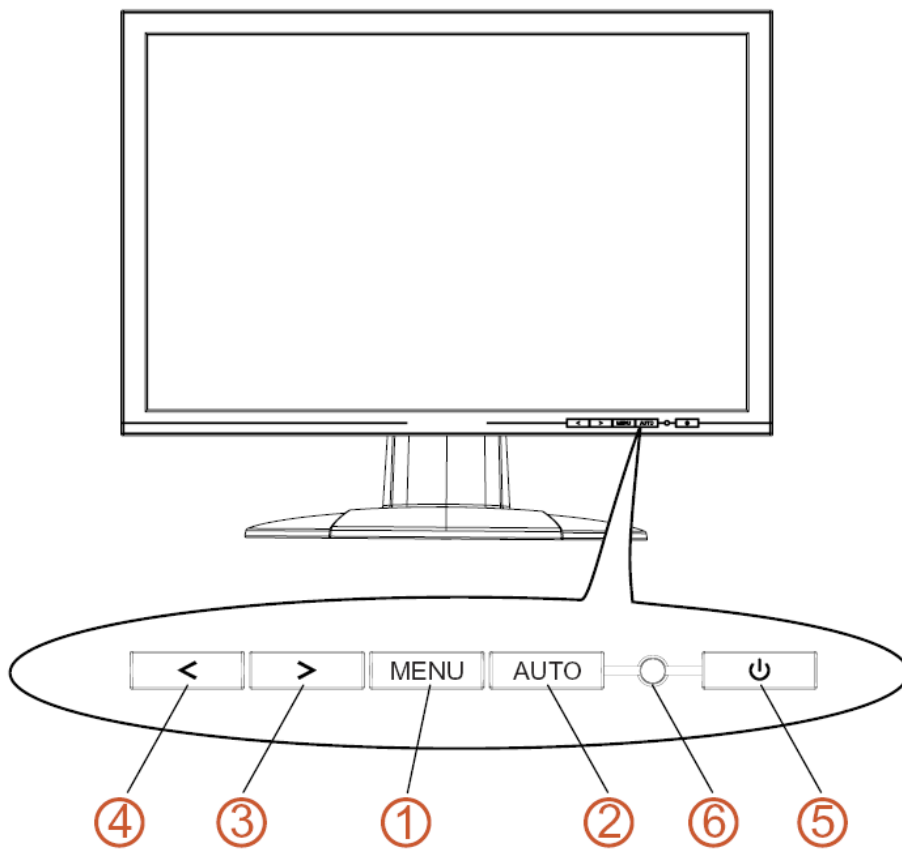

Figure.4. External Control Button
Press the power button to turn the monitor on or off. The other control buttons are located at front panel of the monitor (See Figure 4). By changing these settings, the picture can be adjusted to your personal preferences.
<p>The diagram shows the 'BRIGHTNESS CONTRAST' OSD menu. At the top, it says 'BRIGHTNESS CONTRAST'. Below that is a navigation bar with icons for brightness, contrast, RGB, image control, menu, and exit. The main area contains two menu items: 'BRIGHTNESS' and 'CONTRAST', each with a right-pointing arrow. At the bottom, it says '&lt; &gt; ADJUST MENU: ENTER AUTO: EXIT'.</p>	<p>Brightness/Contrast:</p> <p>Brightness: Adjusts brightness by using the buttons &lt; or &gt; (② and ⑤ in fig. 4).</p> <p>Contrast: Adjusts screen contrast by using the buttons &lt; or &gt; (② and ⑤ in fig. 4).</p>
<p>The diagram shows the 'IMAGE CONTROL' OSD menu. At the top, it says 'IMAGE CONTROL'. Below that is a navigation bar with icons for brightness, contrast, RGB, image control, menu, and exit. The main area contains six menu items: 'AUTO ADJUSTMENT', 'H. POSITION', 'V. POSITION', 'CLOCK', 'PHASE', and 'SHARPNESS', each with a right-pointing arrow. At the bottom, it says '&lt; &gt; ADJUST MENU:ENTER AUTO: EXIT'.</p>	<p>Image Control:</p> <p>Auto Adjustment: Automatically selects the optimal settings for image parameters (image position, phase, etc.) by using the button MENU (① in fig. 4).</p> <p>H. Position: Controls the picture's horizontal position.</p> <p>V. Position: Controls the picture's vertical position.</p> <p>Clock: Sets up the internal clock. Larger values make the displayed image appear wider; smaller values make it appear compressed.</p> <p>Phase: Adjusts the internal clock's time lag in order to optimize the screen image.</p>
<p>The diagram shows the 'COLOR' OSD menu. At the top, it says 'COLOR'. Below that is a navigation bar with icons for brightness, contrast, RGB, image control, menu, and exit. The main area contains three menu items: 'WARM', 'COOL', and 'CUSTOM COLOR', each with a right-pointing arrow. At the bottom, it says '&lt; &gt; ADJUST MENU:ENTER AUTO: EXIT'.</p>	<p>Color:</p> <p>This menu lets you select a preset color temperature (9300K, 6500K) by pressing the OSD buttons &lt; or &gt; (② and ⑤ in fig. 4). Changes to the color temperature take immediate effect on screen. If you wish to set individual color values, select the Custom Color option. Then press the MENU button (① in fig. 4) to select the red, green and blue settings and set the desired value using the OSD buttons &lt; or &gt; (② and ⑤ in fig. 4). The current settings are automatically saved when you return to the previous level or exit the OSD menu.</p>